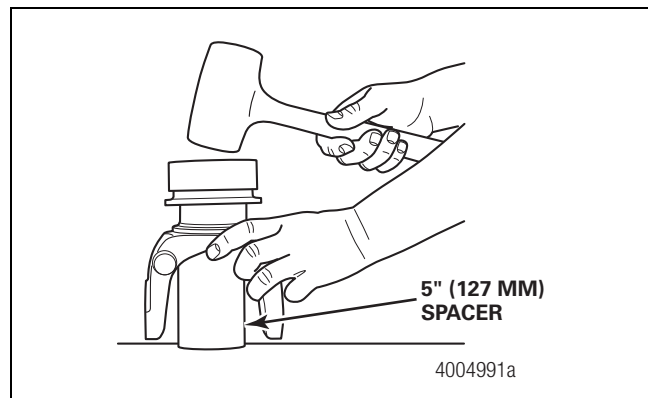

Figure 10
- **If you do not have a press:** Position the yoke on a five-inch (127 mm) spacer on a workbench. Use a dead-blow hammer and the appropriate driver to install the sleeve onto the yoke. Figure 10.